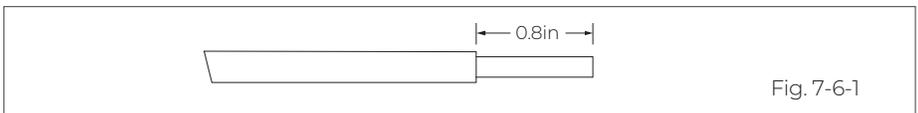

Fig. 7-6-1
**Step 1:** Select the appropriate type and size of cables (see table 7-2). Strip the cables with a length of 0.8 inches, as shown in Fig. 7-6-1.